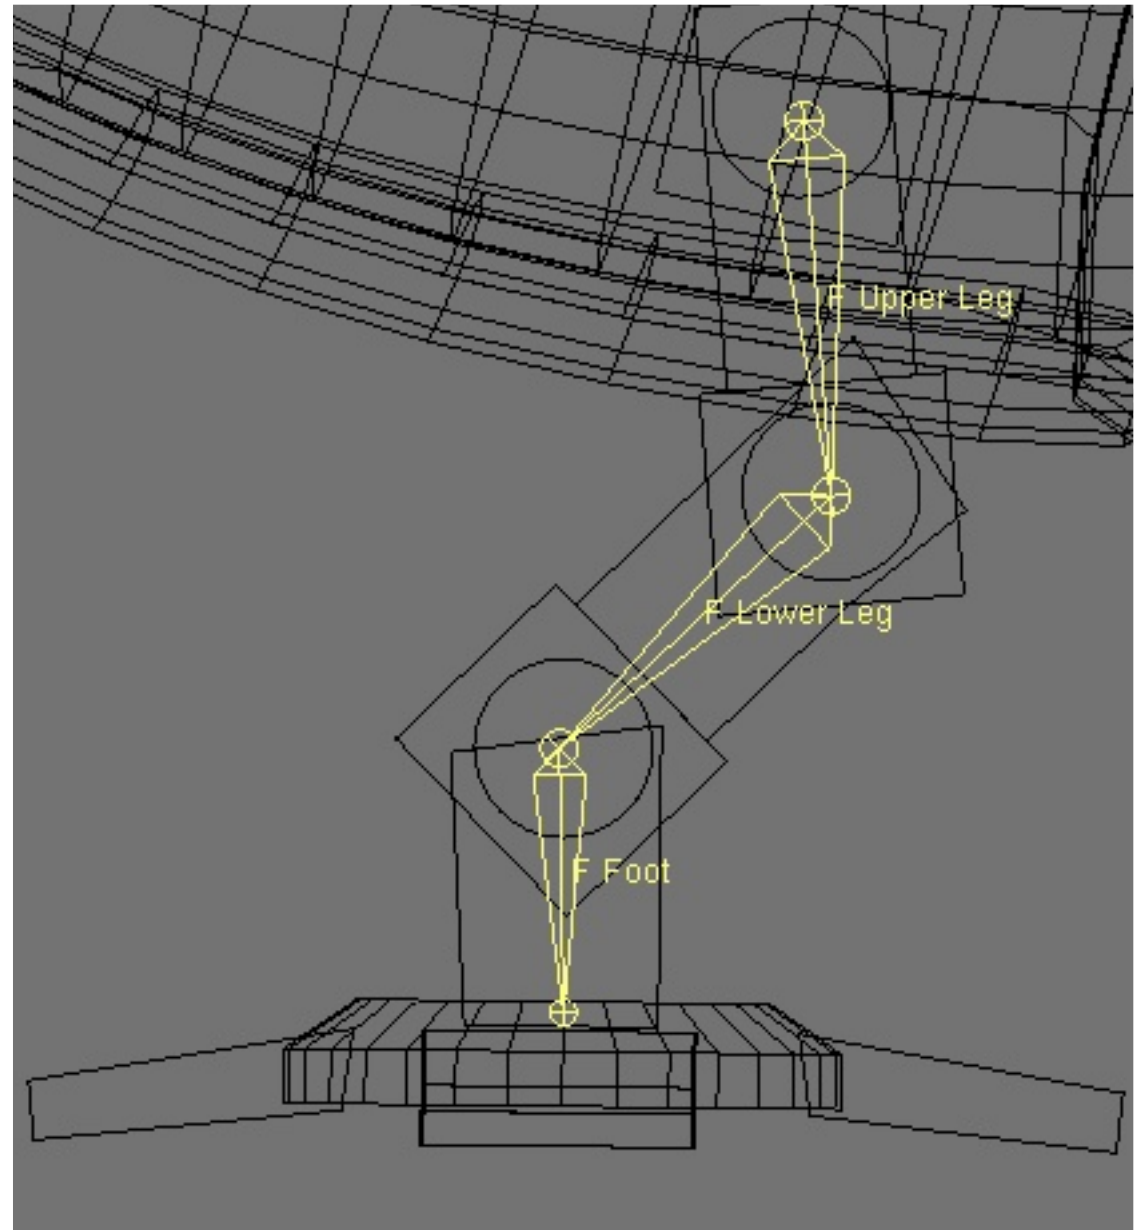

Fig 4. The bones added to the mesh. They are named the same as the mesh objects that will be parented to them.
13. Start at the front landing gear. Select the F Upper Leg and hit Shift-S and select Curs->Sel Your cursor should snap to the upper leg rotation point. Add an armature and draw in three bones. Name these the same as the mesh names. It makes it much easier when you are parenting everything later on. So you should have three bones called F Upper Leg, F Lower Leg and F Foot. Make sure that the bones are at the pivot points of the landing gear objects. See Figure 4.